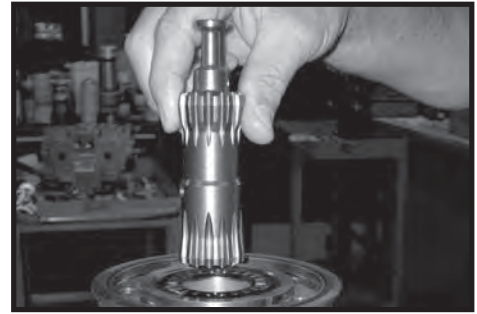

Figure 42
- Install drive link** 11. Install drive link (10) the long splined end down into the coupling shaft (12) and engage the drive link splines into mesh with the coupling shaft splines. SEE FIGURE 42.